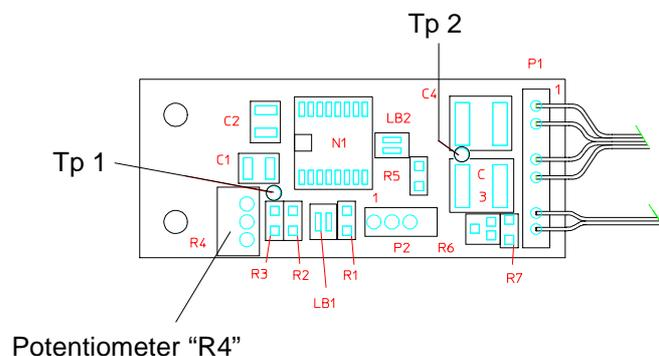
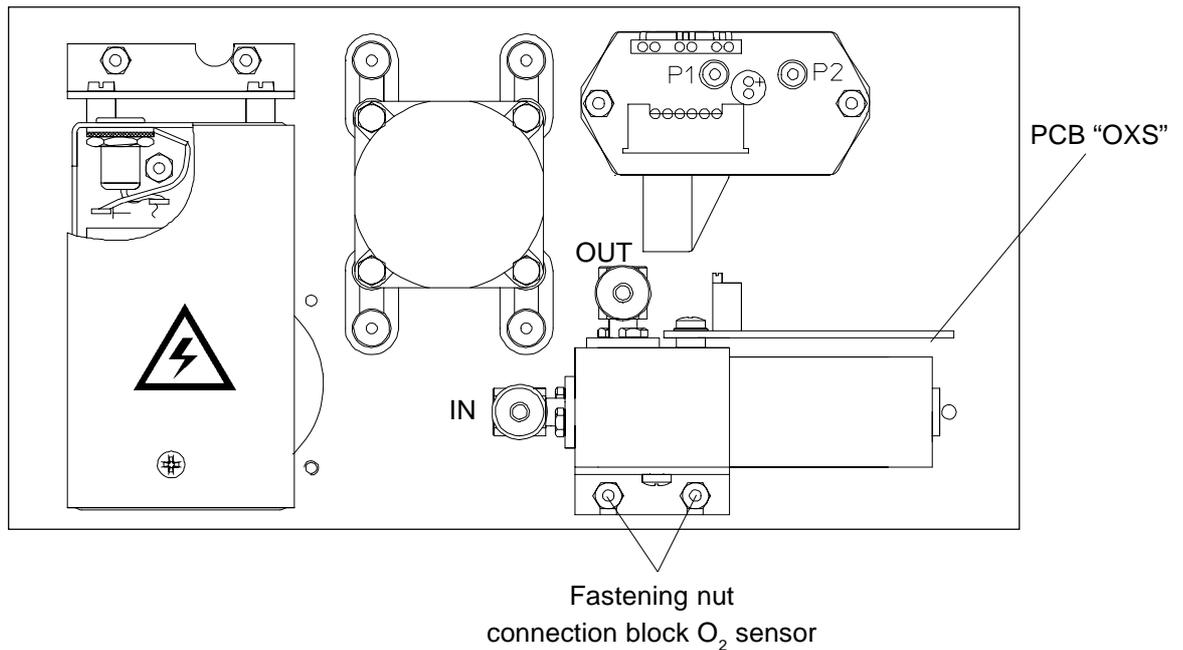

Fig. 18-1: PCB "OXS", assembled, horizontal projection
Fig. 18-2: BINOS E, front panel, rear view
Tp 1 (Signal) and Tp 2 (⊥) of the PCB OXS, mounted directly at the connection block (Fig. 18-1, see also Fig. 18-2, 1-3, 1-16a and 1-17).
- Remove the fastening hexagon nuts of the connection block (Fig. 18-2) with hexagon spanner (SW 5.5) and remove connection block including oxygen sensor from front panel.
- Put connection block with the (new) sensor onto the front panel and screw the fastening hexagon nuts of the connection block (Fig. 18-2) with hexagon spanner (SW 5.5).
Tp 1 (Signal) and Tp 2 (⊥) of the PCB OXS, mounted directly at the sensor block (Fig. 18-1, see also Fig. 18-2, 1-3, 1-16a and 1-17).